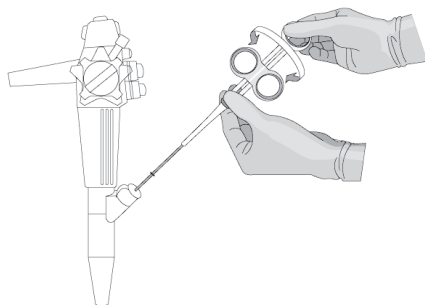

Figure 2
- Turn the handle to orient the jaws in the optimum direction (see Figure 2).